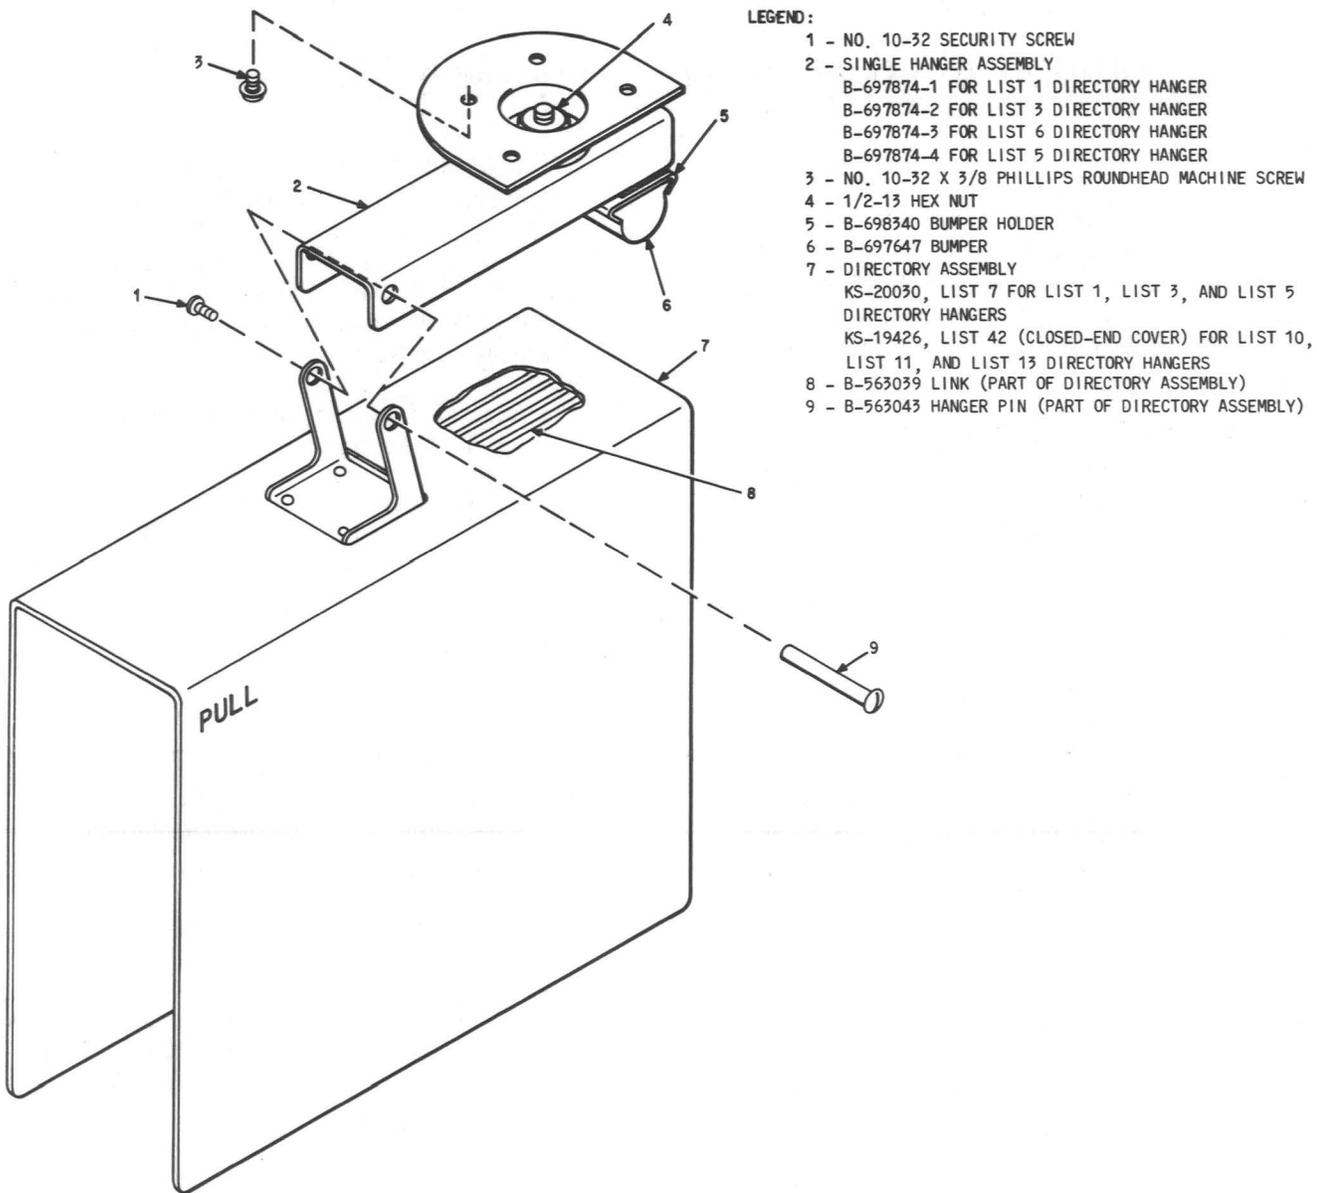
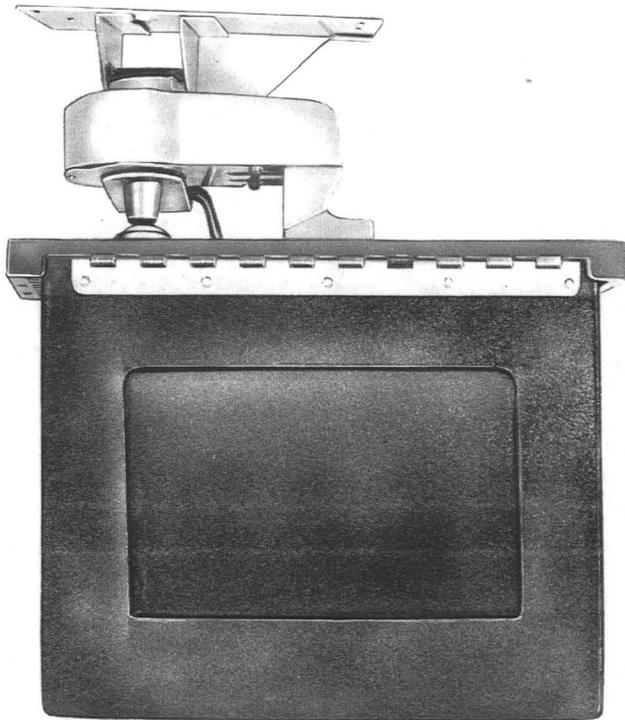

Fig. 1—KS-20030 Directory Hanger (Typical for Single Binder)
Fig. 3—KS-21435 Directory Facility
1.01 The KS-20030 directory hangers (Fig. 1 and 2) are universal hangers designed for use with public telephone enclosures. The KS-21435 directory facility (Fig. 3) is a universal (hanger) primarily designed for use with KS-20842 SENTRY* public telephone enclosures.
- 4.01 Maintenance of the KS-20030 directory hangers consists of replacing broken or damaged parts and lubricating bearings with KS-19589 lubricant. Refer to Fig. 1 and 2 for replacement parts.